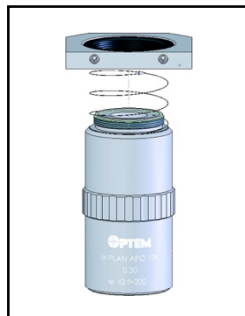

FIGURE 9
- 1) Thread objective into mount as shown (Fig. 9).